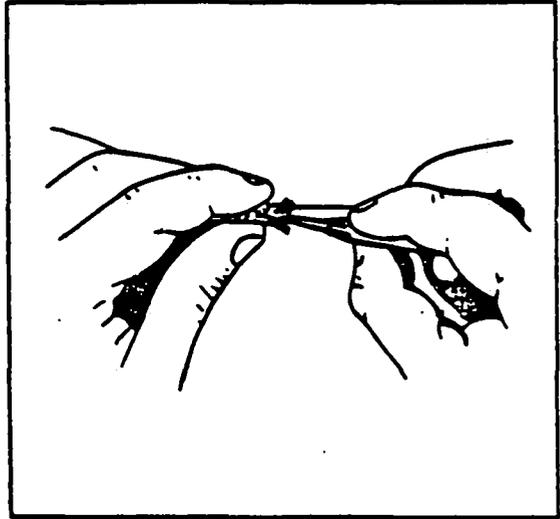

Figure 8-19. Unbraiding Metallic Shielding
9. Using a scribe or similar pointed tool, unbraided 3/8 inch of braided shielding. (Refer to Figure 8-19.) Wrap a single thickness of electrical tape around unbraided strands to facilitate insertion of lead end thru hole in cable